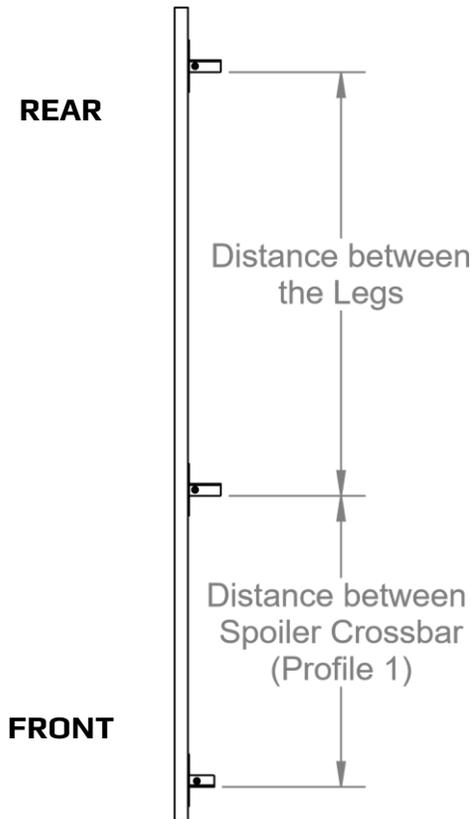
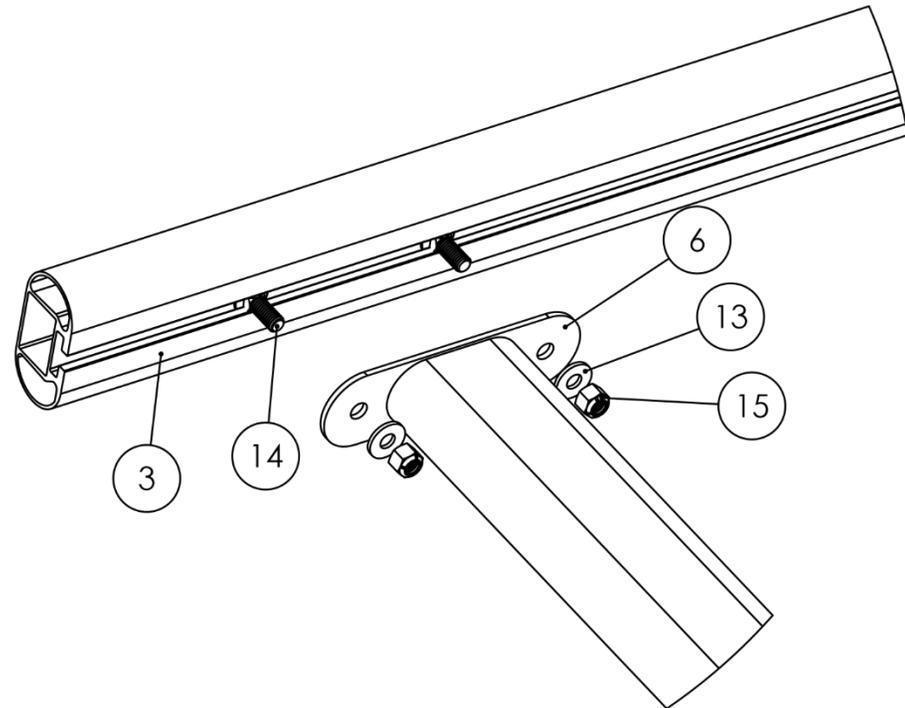

Figure 5
Figure 6
3. **Attach the Side Rails to the Crossbars.** Examine the Side Rails (Item No. 3) and notice a slot (channel) running the length of the inner side. In accordance to Figure 5 and your setup, place (6) 1" Carriage Bolts (Item No. 14) into each Side Rail slot. Each pair of Carriage Bolts will be used to secure its Side Rail onto a particular Crossbar (Item No. 2) through the Side Rail Connector (Item No. 6). Fasten each connection with a Lock Nut (Item No. 15) and Washer (Item No. 13) but consider lightly tightening for now so that you can align the Crossbars as you move through the installation. Figure 6 shows this connection as it is required.